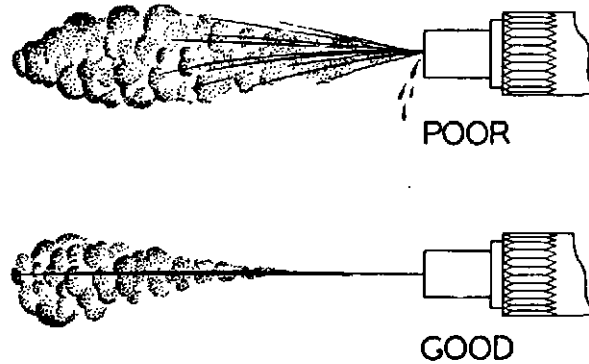

Figure 104
5. Adjust nozzle for opening pressure; check for spray pattern and leaking. (Fig. 104.)